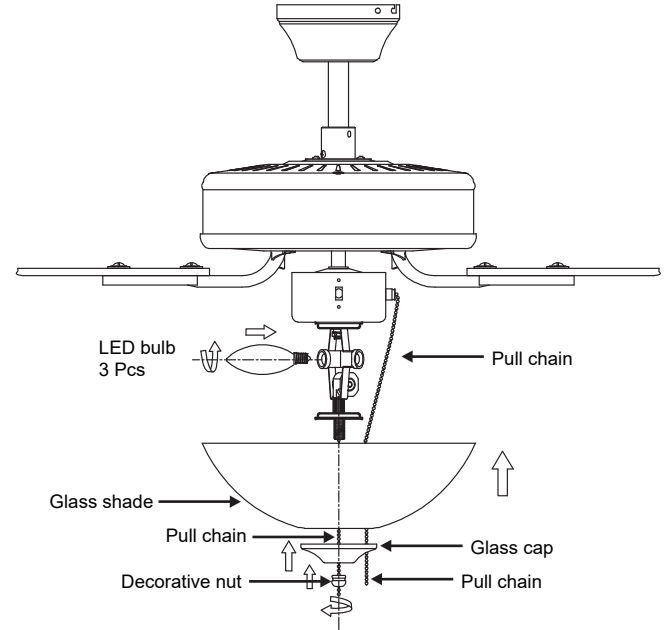

Fig. 17
Step 1. Remove the glass cap and decorative nut from the light kit (**Fig. 17**).
Step 2. Install LED bulbs (included) (**Fig. 17**).
Step 3. Place glass shade over the light kit stem, secure with glass cap and decorative nut (**Fig. 17**).
Step 4. Insert the pull chains through the eyelet in the shade and cap. Secure the glass cap with decorative nut provided. Do not overtighten (**Fig. 17**).